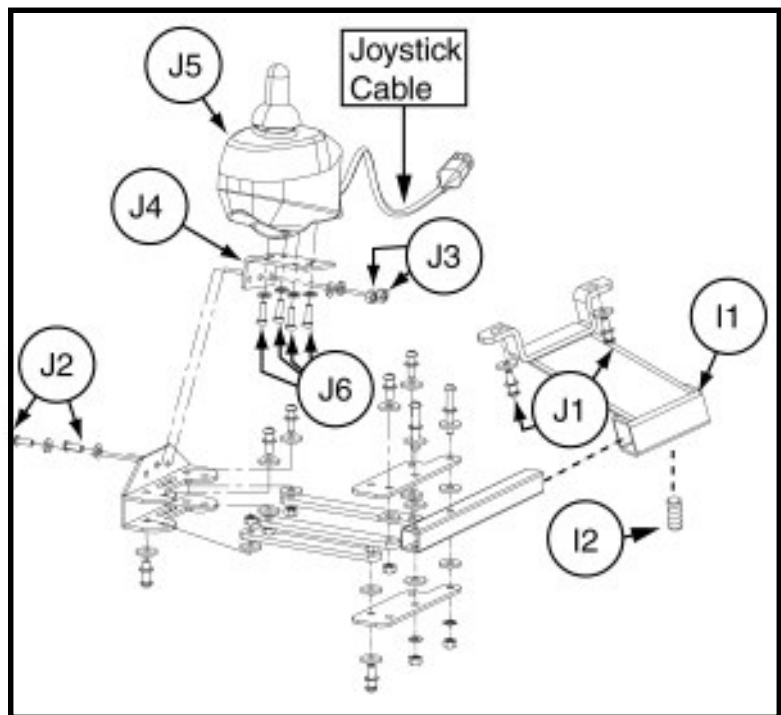

Figure 8. Retractable Desk Arm Assembly (Note: Entire assembly broken down for clarification. Only remove/install parts labeled with callouts.)
1. Remove the retractable desk arm assembly from the receiver bracket (I1) by loosening the 4-mm setscrew (I2). See figure 8.
2. Remove the receiver bracket (I1) from under the right armrest by uninstalling the two Allen-head screws and 5-mm lock washers (J1). See figure 8.